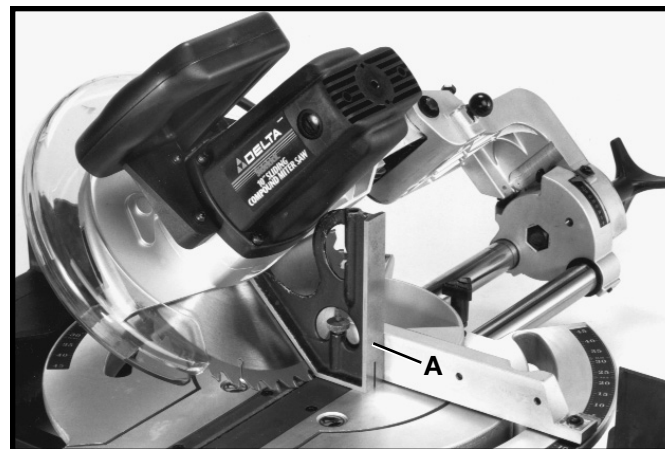

Fig. 47
7. Using a square (A) Fig. 47, check to see if the blade is at 45 degrees to the table, as shown.